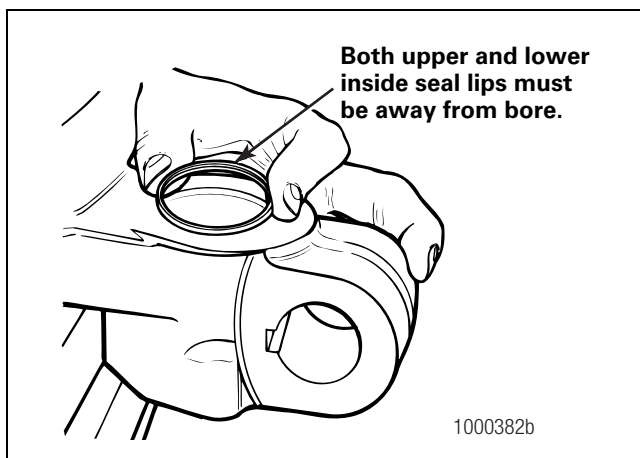

Figure 3
- Install the upper and lower grease seals so that the seal lip “V”s all open away from the bores. Seals must be even with the machined surface of the knuckle bores. Figure 3.